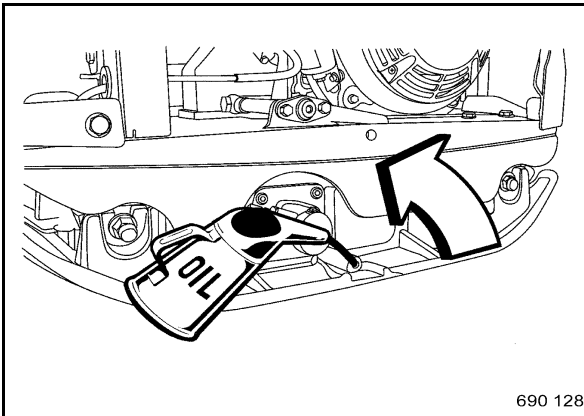

Fig. 60
- Tilt the machine to the opposite side and secure it properly (Fig. 60).